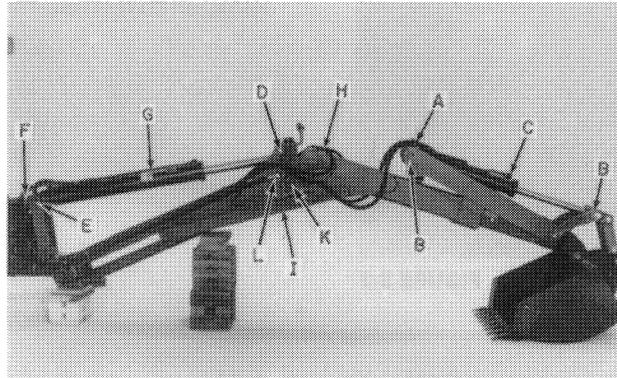

FIGURE 2-1
2. Extend the dipper and lower the boom until the bucket rests on the ground. The bucket teeth should be parallel to the ground as shown in Figure 2-1. Shut off the engine.